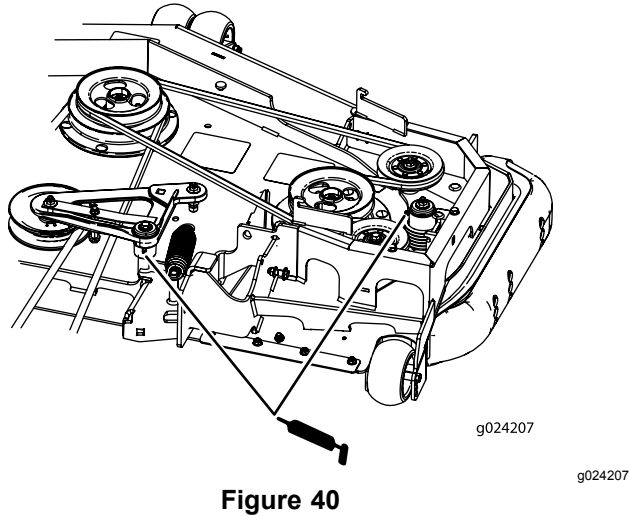

Figure 40
- Grease the deck-belt idler arms (Figure 40).